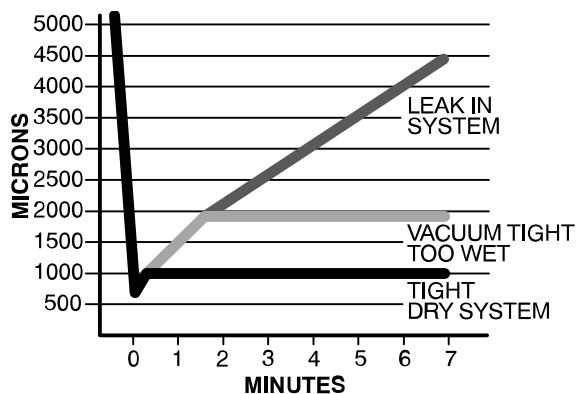

Fig. 27 —Deep Vacuum Graph
7. Evacuate using either the deep vacuum or the triple evacuation method (see Fig. 27 and 28).
The deep vacuum method requires a vacuum pump capable of pulling a vacuum of 500 microns and a vacuum gauge capable of accurately measuring this vacuum depth. The deep vacuum method is the most positive way of assuring a system is free of air and liquid water (see Fig. 27).